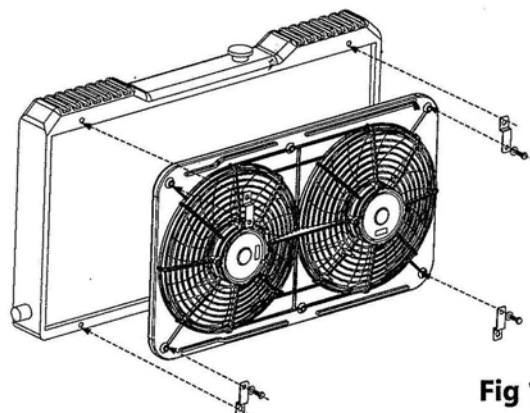
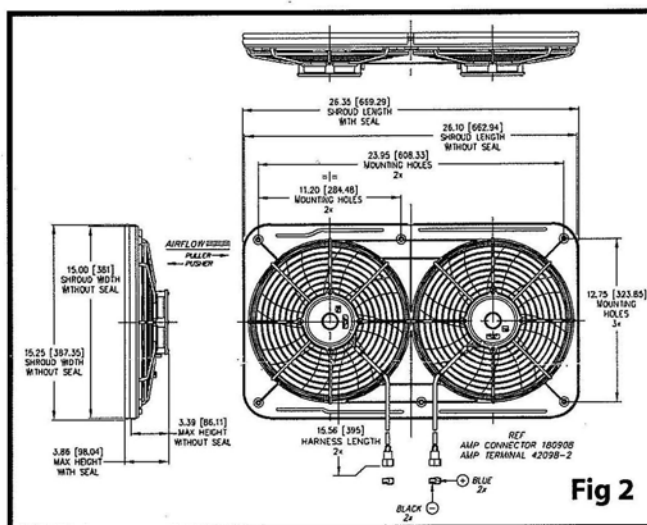

Fig 1
Fig 2
2. We do not recommend the use of nylon tie kits or any other "through core" mounting methods for this fan assembly. The 225 watt motors used in this dual fan assembly are too heavy and produce too much starting torque to be supported by the radiator fins. We recommend purchasing a prefabricated mounting kit or fashioning metal brackets that will attach to the six  $\frac{1}{4}$  - 20 nylon reinforced nuts pressed in the back of the shroud and then bolted to the U-channels of the radiator/heat exchanger (See Fig 1.). 1" X  $\frac{1}{4}$ -20 bolts are recommended to attach the brackets to the shroud. Bolts must **NOT** be long enough to contact the radiator/heat exchanger. See Fig 2 for bolt pattern.